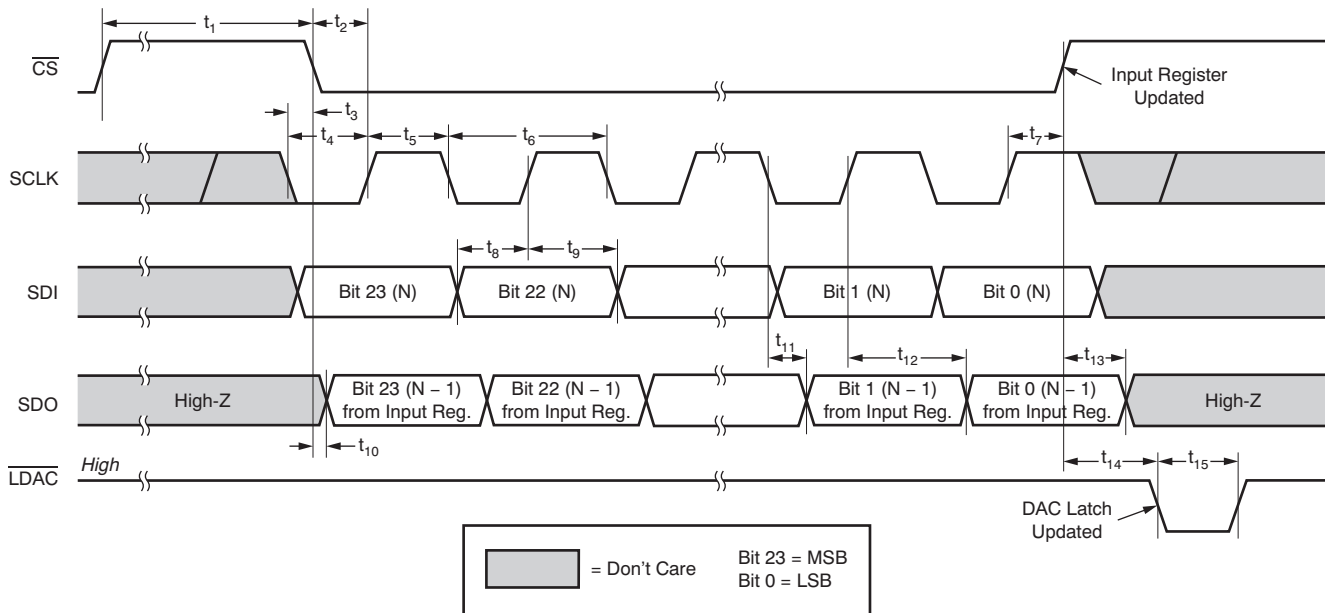

**Figure 1. Timing Diagram for Standalone Operation without SDO**
At  $-40^{\circ}\text{C}$  to  $+105^{\circ}\text{C}$ , unless otherwise noted. See Figure 1 (1)(2)(3)